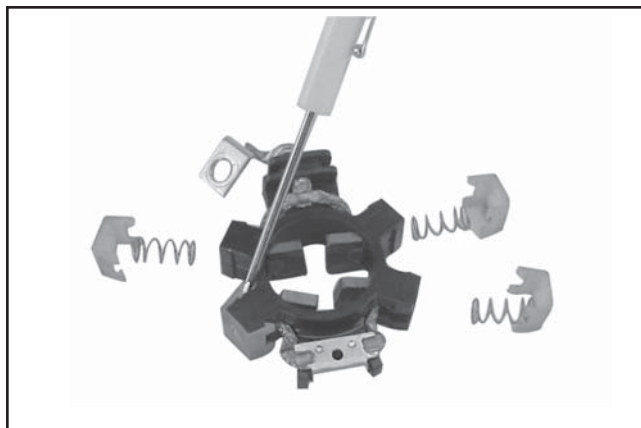

Figure 7-31. Removing Retaining Clips.
- a. Carefully unhook the retaining caps from over each of the brush assemblies. Do not lose the springs. See Figure 7-31.